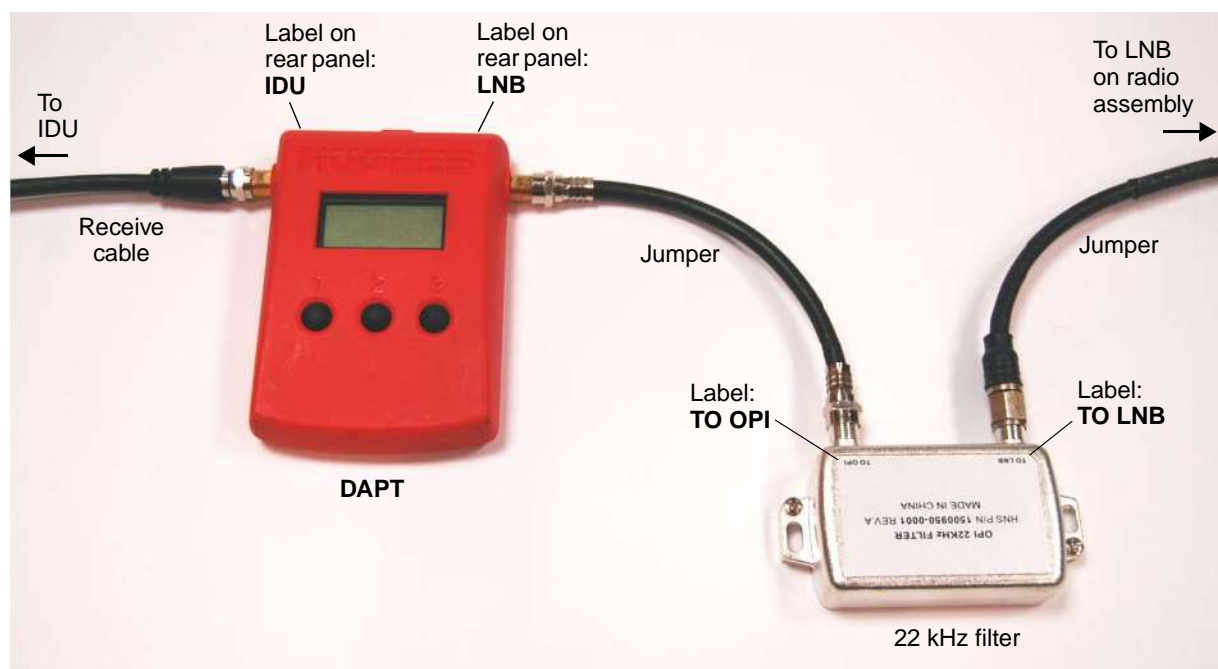

Figure 44: Installing the DAPT
4. Use the jumper cables to connect the DAPT and filter inline between the IDU and the LNB, exactly as shown in Figure 44.